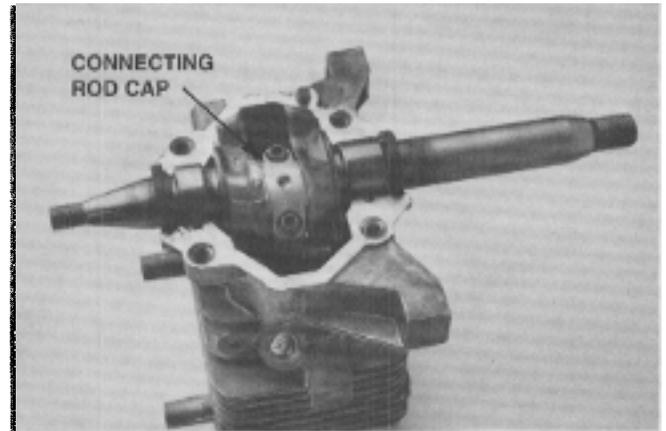

Figure 70
3. Carefully remove the HSH (hex, sockethead) cap screws (9, page A-2) to remove the connecting rod cap and the split bearing liner. The needle roller bearings are under the split bearing liner (**Figure 70**).